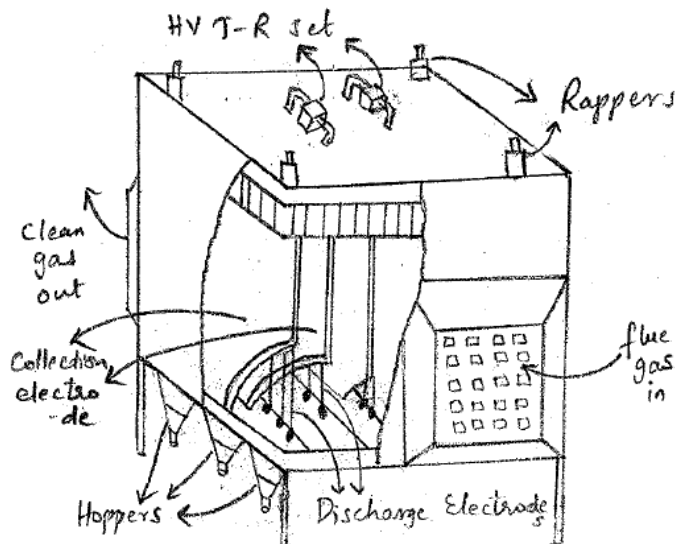

fig. 1
- All ESPs contain 6 essential components: discharge electrodes, collection electrodes, electrical systems, rappers, hoppers and a shell. (See fig 1).